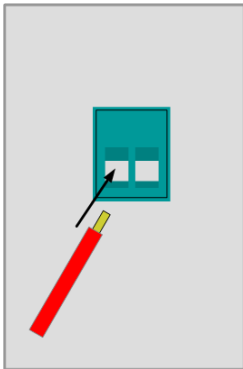

Figure6. Power Supply-1
- As shown in Figure 6, remove the skin of wire about 7mm and put it into the terminal and tighten it by turning the left screw using screwdriver.